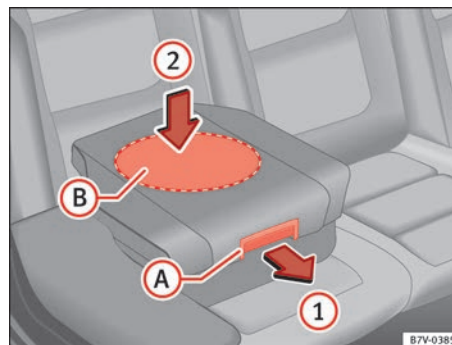

Fig. 33 Integrated child seats, lowering the cushion.
- Pull the unlock lever ⇒ fig. 33 (A) on the cushion in the direction of the arrow ①.
- Push the cushion down through the central area (B) in the direction of the arrow ② until it safely engages ⇒ ①. The side supports fold away automatically.